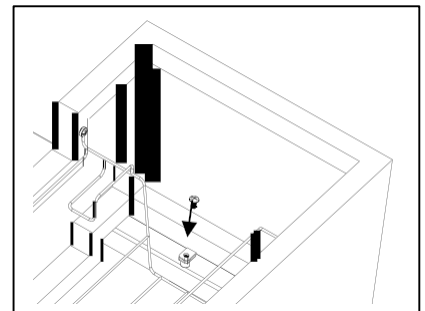

Fig. 3
3. Fasten the two sections together with the supplied fasteners. Fig. 3